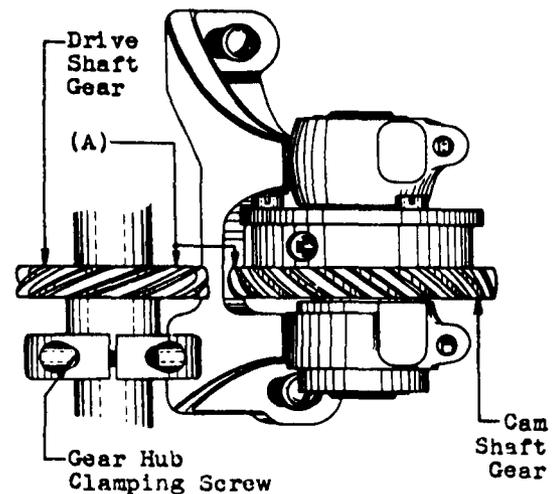

Fig. 6 - Alignment of Cam Shaft and Vertical Drive Shaft Gears
(a) Cam Shaft and Vertical Drive Shaft Gears - Fig. 6 (A)
(1) The top side of the gear on the vertical drive shaft and the top side of the cam shaft gear shall lie in approximately parallel planes perpendicular to the axis of the vertical drive shaft.